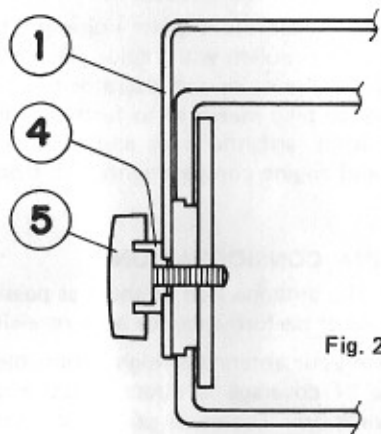

Fig. 2
3. Install the unit to mounting bracket. At this time, insert the insulation bush into mounting screw correctly. In addition, make sure whether insulation bush is installed correctly. (See Fig. 2).